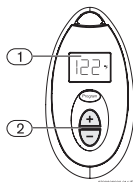

Fig. 8 Temperature adjustment
- ▶ Press the buttons  or  on the remote control (Fig. 8, pos. 2) until the required temperature appears on the remote control display (Fig. 8, pos. 1).